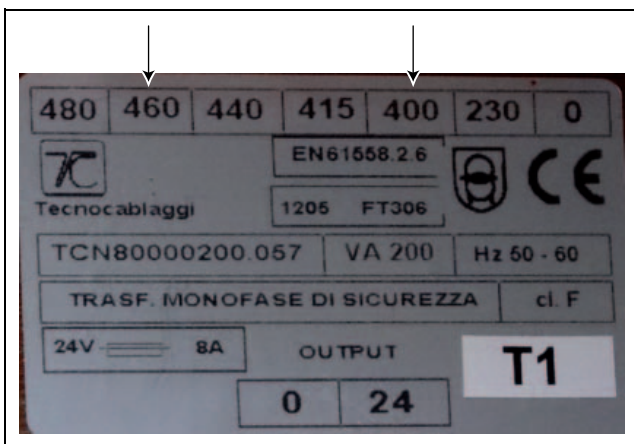

Fig. 21: Transformer connection
- Disconnect this connection and reassign it to 460 V (fig. 21).